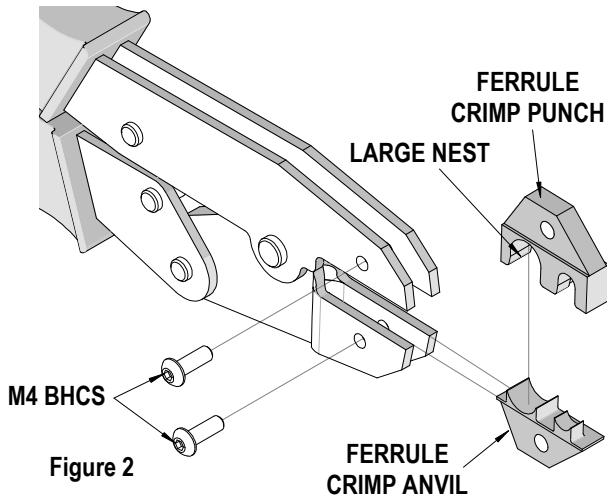

Figure 2
2. Remove the two (2) M4 screws.
3. Slide the die set into the tool frame with the larger crimp nest toward the frame's jaws and the crimping anvil going into the moving jaw. See Figure 2.
5. Reinstall the two (2) M4 screws and tighten securely.